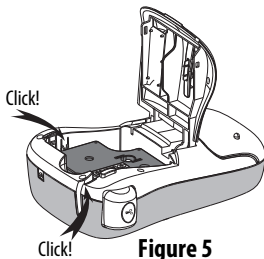

Figure 5
- 4 Press firmly until cassette clicks into place. See Figure 5.